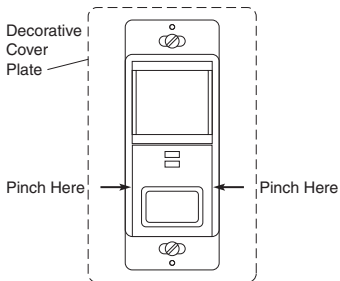

Figure 5 - Removing Control Panel Cover
2. Pinch control panel cover at the indicated points as shown in Figure 5. Pull to remove cover.